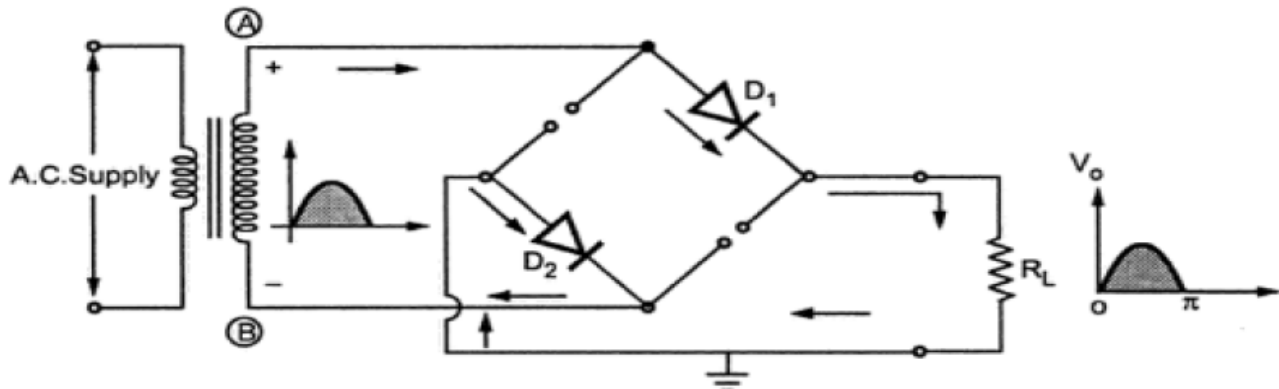

Fig. 1.31 Current flow during positive half cycle
- The two diodes D_1 and D_2 conduct in series with the load and the current flows as shown in Fig. 1.31.